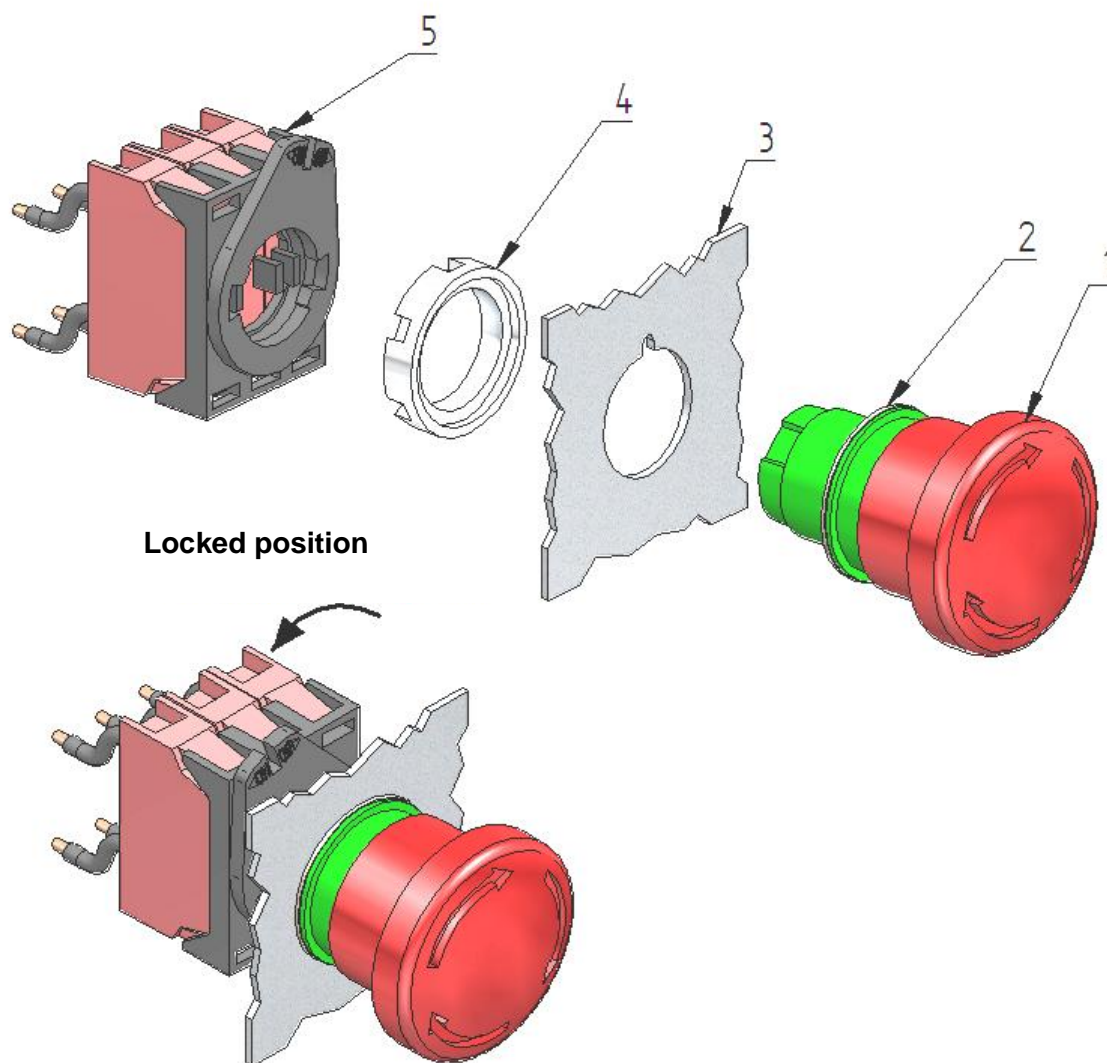

Fig.1 PPFN1R4N safety button assembly before the first operation
- 4.4) Install item (5) in the OFF position onto the button (shown on Fig 1).
- 5) Install **AES** safety button in accordance with the following instructions and Fig.1, Fig.2: